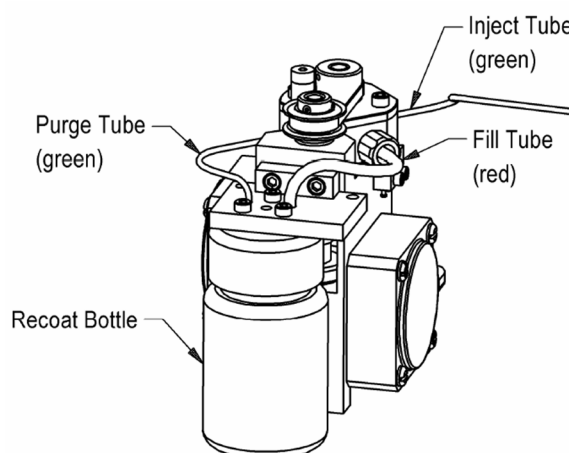

Figure 5 Recoat Material Flow
5. Screw the new recoat bottle into place and replace the front panel and the four (4) socket head cap screws.
8. Execute five (5) Purge cycles (Options menu on Handset Controller). Each purge cycle will draw 100 microliters of recoat material from the bottom of the recoat bottle through the red Fill tube and inject material back into the top of the recoat bottle through the green Purge tube (see Figure 5). Five (5) Purge cycles are required to fill the pump with recoat material and force any air out of the pump system. This will take approximately 15 minutes to complete.
14. Execute three (3) additional "Inject 50" sequences to purge air completely from the inject tube.